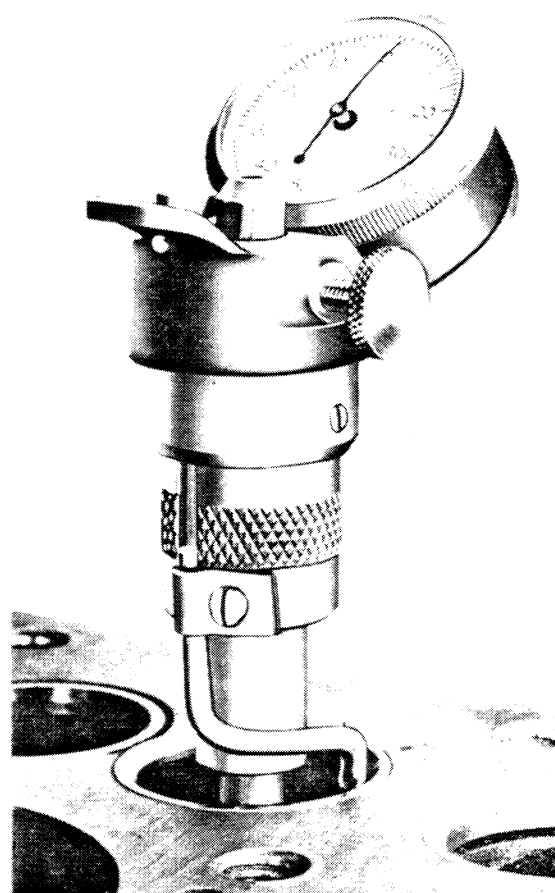

FIG. 19
- The 45 deg. grinding wheel is used for re-facing the valve seats, and the 70 deg. wheel is used for narrowing the seats to the standard $5/64$ " width. After the valve seats have been dressed with the grinding wheel, the dial gauge, shown in Fig. 19, is used to